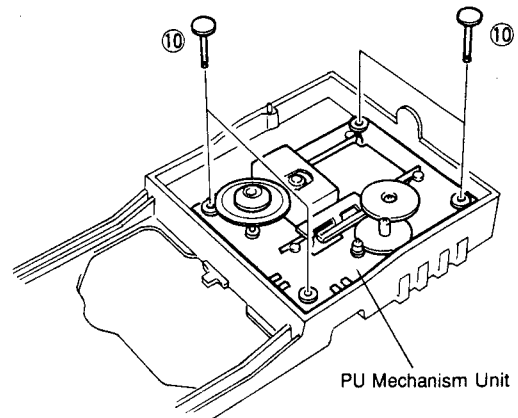

Fig. 10
- Pull out 4 Pins (⑩) and then remove the PU Mechanism Unit as shown in Fig. 10.